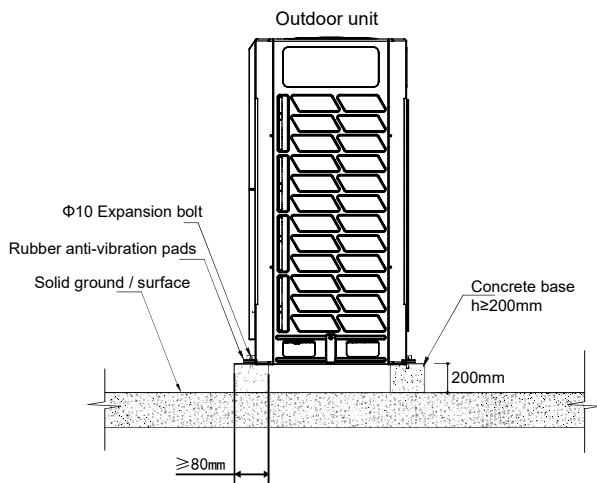

Fig. 4-11
- A typical concrete base design is shown in Figure 4-11. A typical concrete specification is 1 part cement, 2 parts sand and 4 parts crushed stone with $\Phi 10$ mm steel reinforcing bar. The edges of the base should be chamfered.